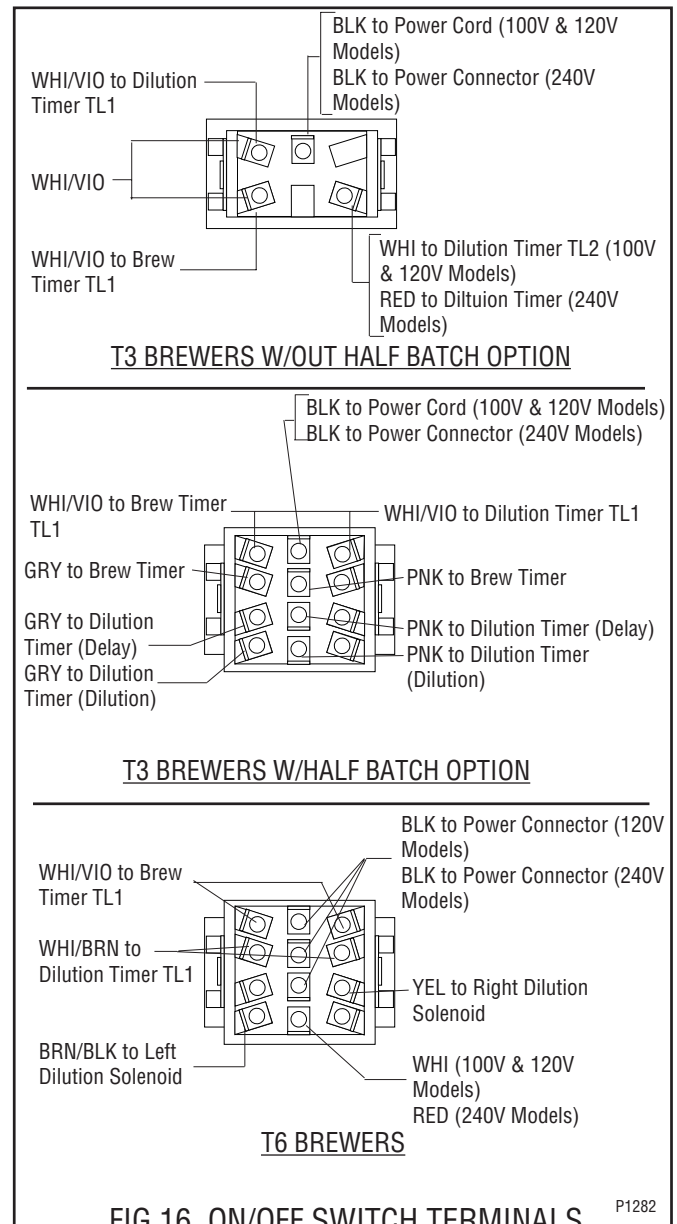

FIG.16 ON/OFF SWITCH TERMINALS P1282
4. Refer to FIG. 16 when reconnecting the wires.